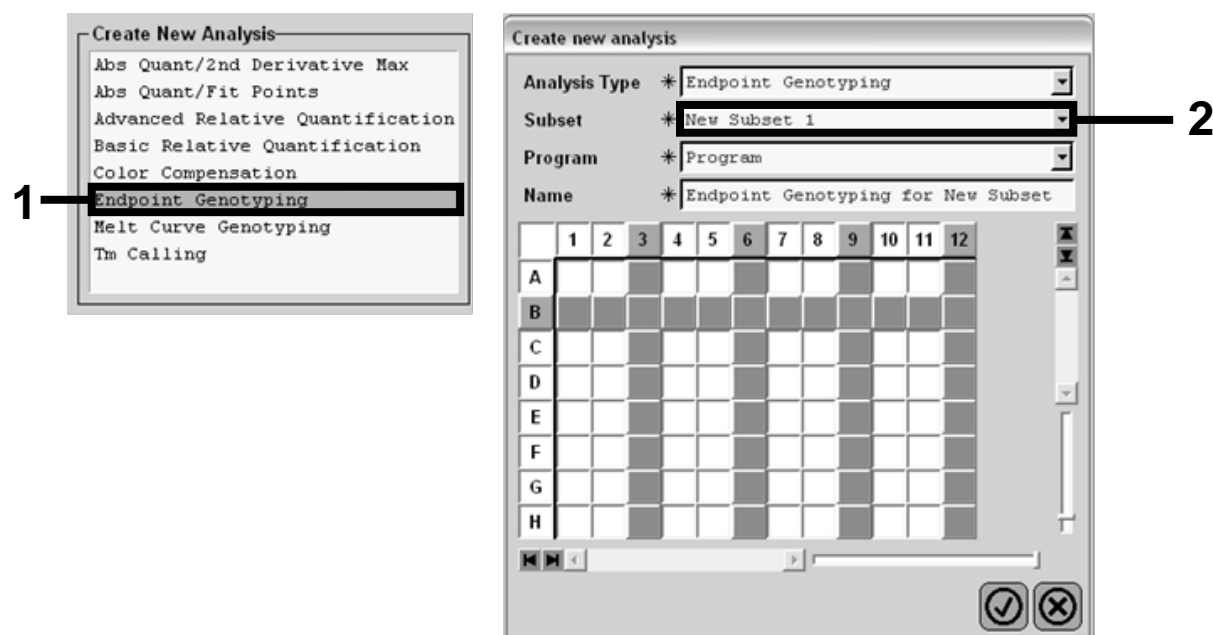

Figure 23. Selecting analysis type and subset to analyze.
14. In the "Create New Analysis" dialog box, select "Endpoint Genotyping", and then select the subset to analyze in the "Subset" menu (Figure 23).